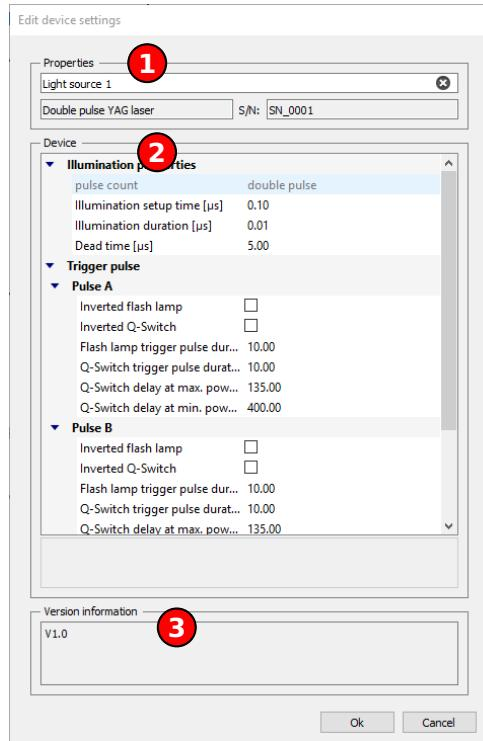

Figure 9.8: Device Settings dialog
The **Device** group (2) offers the device specific settings. All these settings are explained in detail in the respective device manual. The example in Fig. 9.8 shows the settings for a generic double pulse YAG laser mainly concerning the timing behavior of the laser. The version information at (3) contains device specific information like driver or firmware version. Changed settings are only applied by pressing the OK button.
The second horizontal tab contains the light source type specific settings. These are most likely the same settings as in the hardware setup's **Edit device settings** dialog (cf. Fig. 9.8). For details about the listed settings please refer to the corresponding light source manual.